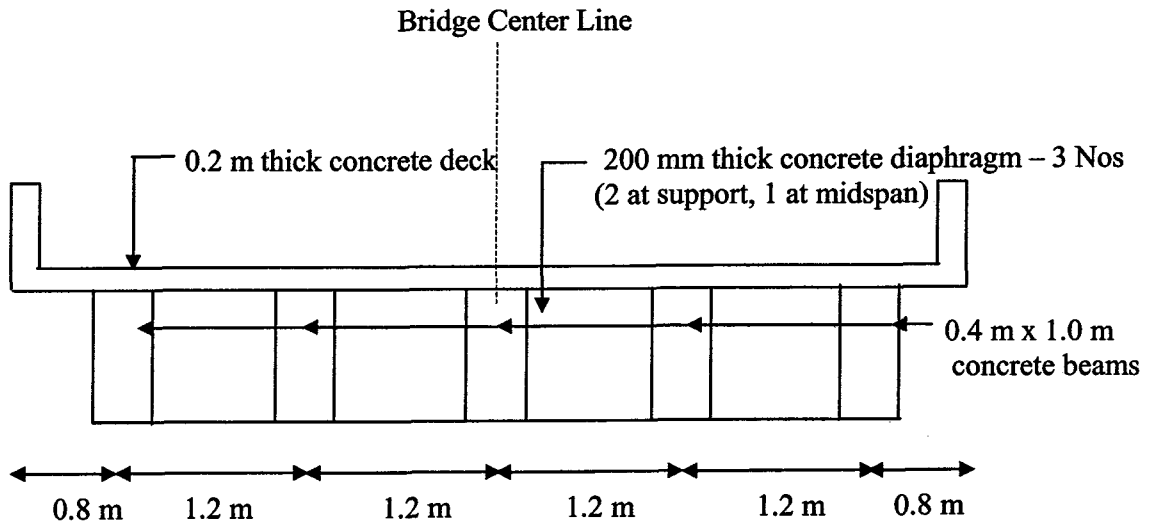

Figure 6 : Typical Cross Section
5. (a) An 18 m single span non-skew bridge is subjected to a Knife Edge Load (KEL) exactly at the mid-span. Construct the equivalent grillage. Provide marking for all major elements, sketch all critical sections, mark the notional lanes and disperse the KEL to the appropriate nodes on the grillage. The cross section of the bridge is shown in Figure 6.